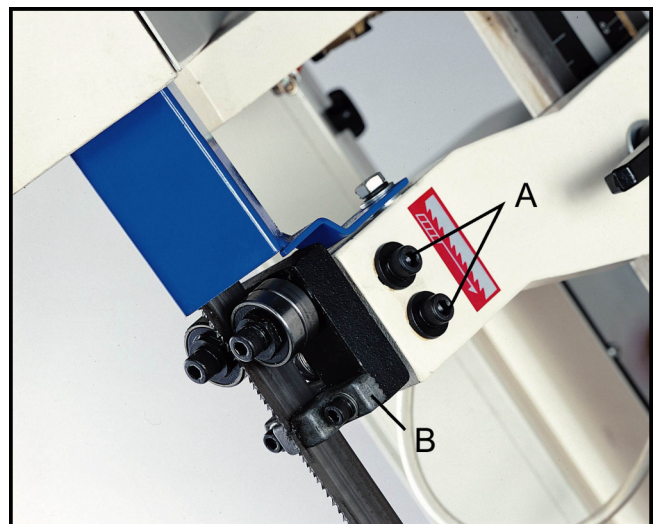

Fig. 9
2. Loosen two hex socket cap screws (A-Fig.9).
3. Move guide seat (B – Fig.9) up or down until a clearance of 0.003” to 0.005” between back of blade and thrust roller is obtained.
4. Tighten two hex socket cap screws (A – Fig.9).